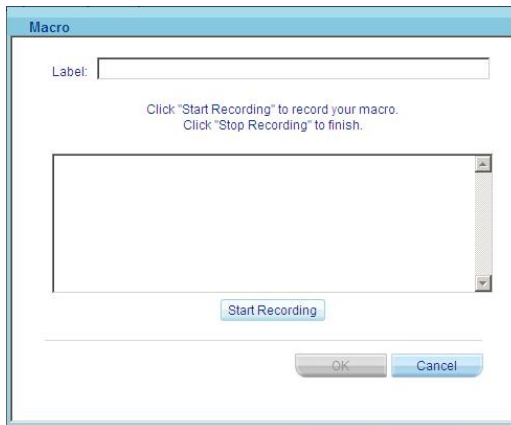

Figure 29 Macro box
1. From the Special Key Manager box press **Record New**. The Macro box appears see Figure 29.